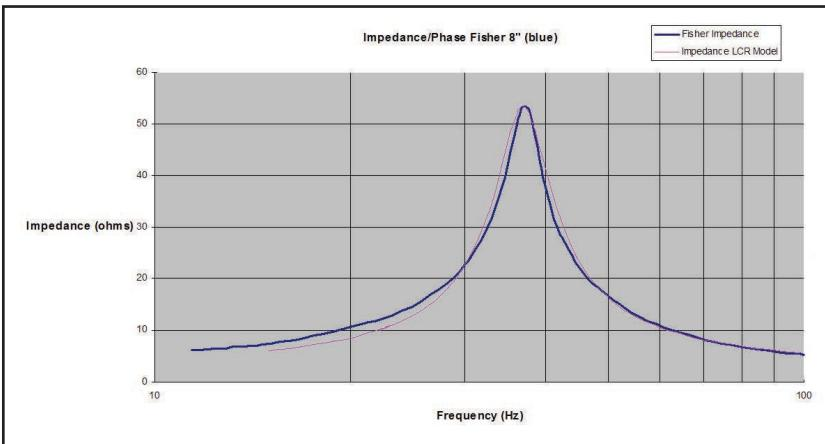

Figure 14: The graph shows the impedance curves of the Fisher woofer and the equivalent LCR filter.
**Figure 14** shows the impedances both of the modeled filter and the actual woofer.